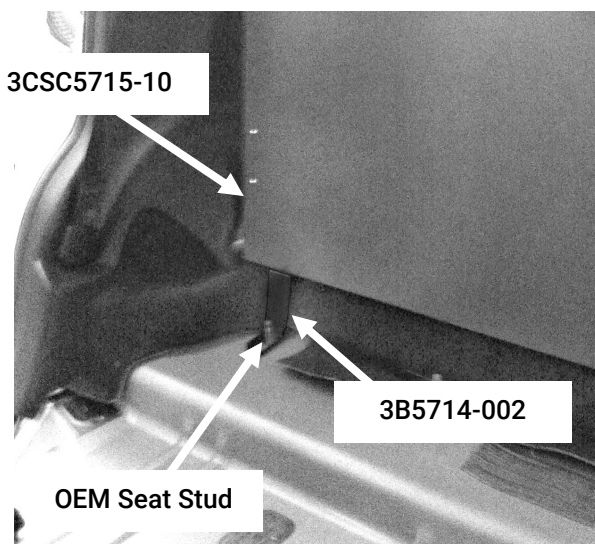

Figure 1
- A. Loosen all OEM fasteners holding the second row seat to the vehicle. Fully remove the (2) nuts closest to the passenger and driver doors.
- B. Lift the second row seats and place the lower support brackets [3B5714-001 and 3B5714-002] over the studs closest to the doors (Fig 1). The brackets rest underneath the OEM seat frame. 3B5714-001 goes on the driver side of the vehicle and 3B5714-002 goes on the passenger side.